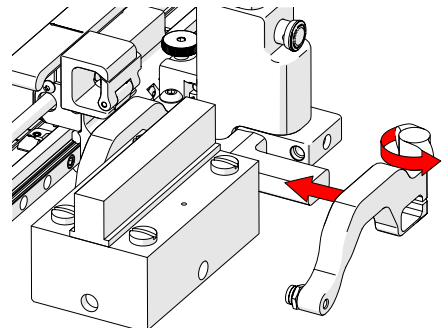

Fig. 37 - Adjust inner arm
4. Loosen the arm clamp screw (Fig. 37).
5. Place the wedge on the pivot button of the inner probe holder arm (Fig. 37).